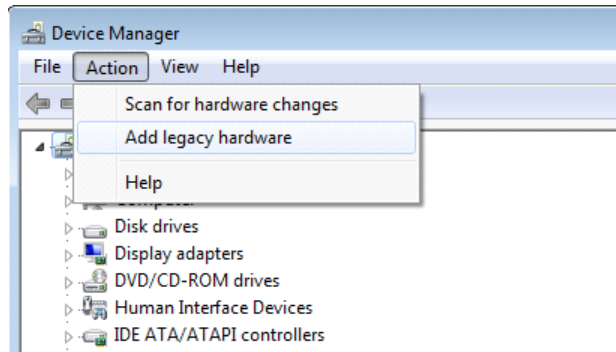

Figure 35. Adding Legacy Hardware
- d. Start the “Add legacy hardware” process from the “Action” menu as shown Figure 35.